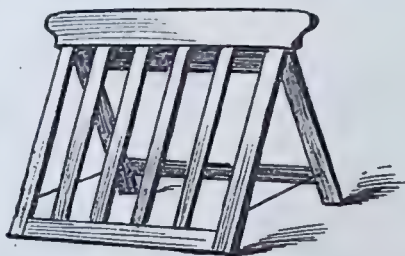
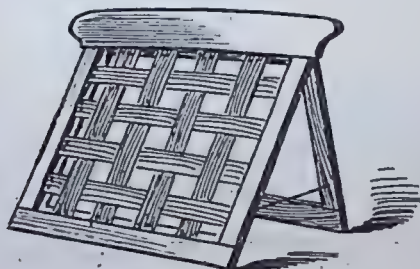

FIG. 1.—INVALID'S BED REST.
FIG. 2.—ALTERNATIVE SKETCH.
at Fig. 1, dimensions being 2 ft. 6 ins. long by 1 ft. 4 ins. wide. The top is of $\frac{1}{4}$ in. thickness, with rounded corners and edges. Two slips, 1 in. wide by $\frac{1}{4}$ in. thick, are screwed along the length, as shown, to prevent the slipping of articles placed thereon. The pillar support should finish $4\frac{1}{2}$ ins. on the square, and can be turned up out of a piece 2 ft. long. The centre should be square, bored through; or the column may be built up of four pieces 1 in. thick, with a 2 ins. by 2 ins. clearance in centre, sufficient to allow the adjustable ratchet to work easily up and down. The base is intended to project under the bed, and should finish about 2 ft. 3 ins. by 1 ft. 3 ins. over all, with a set of three castors fitted one each side of widest part and one at extreme of arm. A view of parts, as seen from under top, is sketched at Fig. 2. The V-shaped notches forming the ratchet start about 5 ins. below the top end, and can be spaced 1 in. apart. The top end of ratchet is rounded off, and will be pivoted on a bolt, entered through the metal plate, as seen. The plate is about 12 ins. long by $7\frac{1}{2}$ ins. wide, and is made with a quadrant extension (A) of about $5\frac{1}{2}$ ins., with a stout angle piece to counteract strain. Behind the quadrant piece the top pivot is adjustable by a fly-nut. This should be understood from the enlarged sketch (B), the guide bolt upon which the cut-out portion works being adjusted by the lowest fly-nut. Sheet iron $\frac{1}{4}$ in. thick is suitable for the metal fitting. The method of adjusting the ratchet is shown at C, Fig. 2. A brass clutch or clip is pivoted on brass angle pieces to act loosely. It is screwed on to set flush with the top block, and as the ratchet is pulled up the clip drops automatically into the notches, so that without hindering the raising of the table top to required height all downward slip is
wide, or the height may be increased if a rest for the head is required. Two designs are indicated, Fig. 1, showing four upright slats, $1\frac{1}{4}$ in. by $\frac{5}{8}$ in. stubbed into the framing; and, alternately, Fig. 2, which indicates the framing as being webbed after the manner of a chair seat. The webbing may be interlaced as shown or arranged diagonally, and may be either nailed into a rebate or simply on the face of the framework. To prevent the pillows sinking these may be looped round top of slope by a tape passing through two screw eyes placed behind the top rail for the purpose. It may be added that the above will serve for any ordinary purpose, but in the event of an affection of the spine being in question it would be prudent to consult a surgeon on the matter of supports as specialities are frequently necessary in such a case.